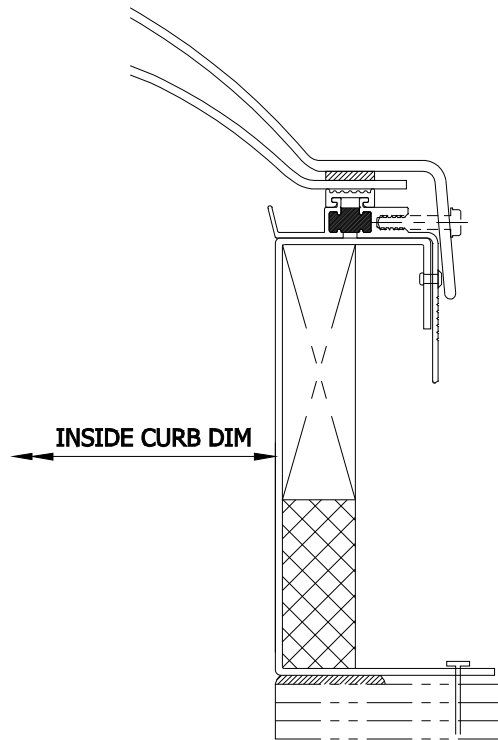

FIGURE 6.0
- Prepare the roof opening per the manufacturer's dimensions. Most of the time the dimensions will be called out as both roof opening and inside curb dimensions (ICD) (See Figure 6.0).